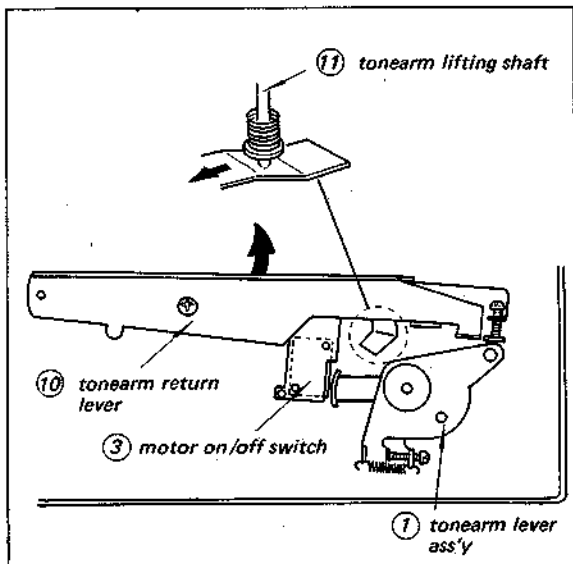

Fig. 1-8. Tonearm return lever movement (2)
This enables the motor (4) to complete the last half cycle of rejecting operation after the tonearm has moved back to its rest (12). When the main cam (8) comes to its last movement, the tonearm return lever (10) is moved back to its original position cutting off power to the motor (4) as shown in Fig. 1-8, because the motor on/off switch (3) is pressed by the leg of the tonearm lever ass'y (1) while the tonearm return lever (10) lowers the tonearm lifting shaft (11) (See Fig. 1-8.).